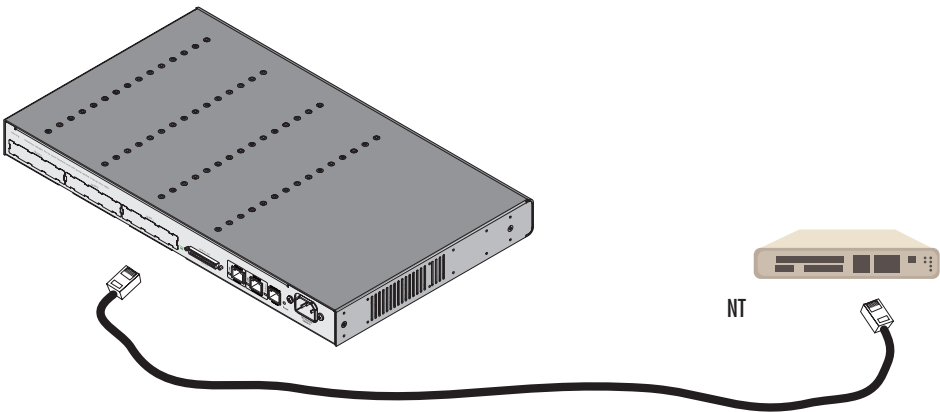

Figure 75. Connecting an E1 PRI port to an NT
The PRI is usually connected to a PBX or telco switch (local exchange (LE)). Type and pin-outs of these devices vary depending on the manufacturer. In most cases, a straight-through RJ-45 to RJ-45 can be used to connect the PRI (see table 37 for IC-E1V card port pin-out listing) with a PBX (an NT). A cross-over cable is required to connect to a LE, as illustrated in figure 75 on page 119.